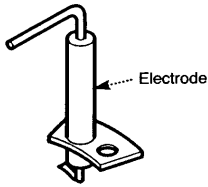

Fig. 54
10.5 Cleaning the Electrode (Figs. 54 & 55)